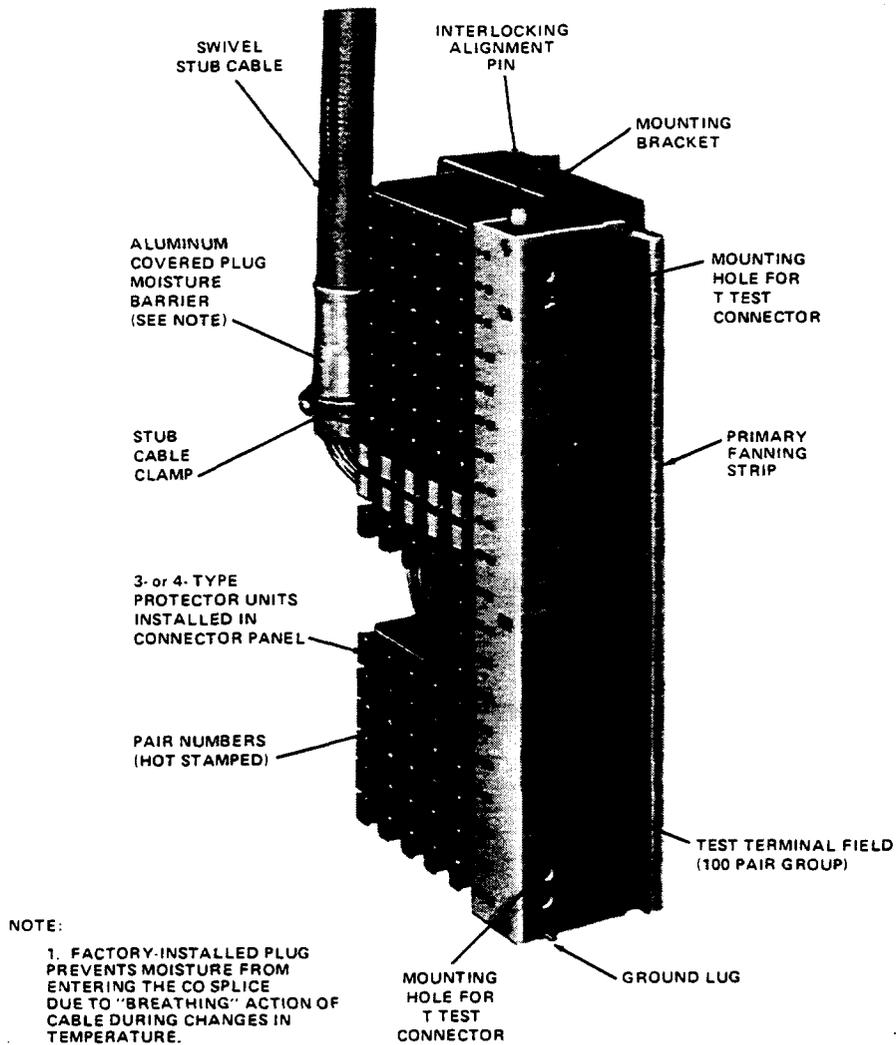

Figure 16—311-Type Connector
6.02 The 311-type connector (Figure 16) is a high density, angled mounting connector used to